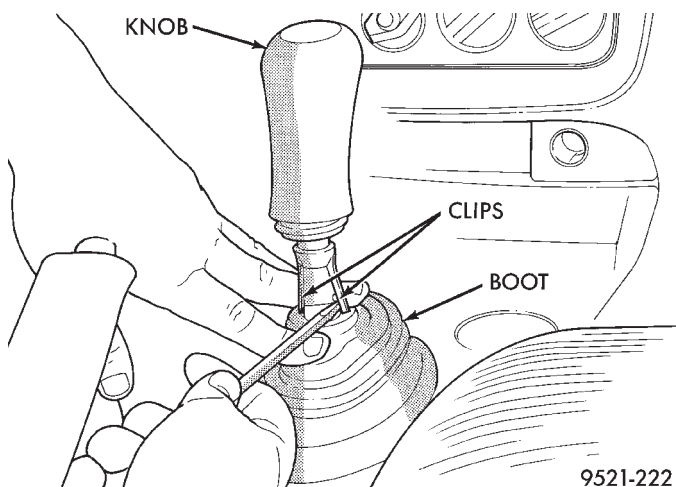

Fig. 121 Gearshift Knob
(3) If the vehicle is equipped with a manual transmission remove the gearshift knob and shifter boot using the following procedure.
- Push shifter boot down to expose clips on gearshift knob and roll pin on shifter handle (Fig. 121).
- Pry the clips on the shifter knob away from the roll pin in the shifter handle using a flat blade pry tool (Fig. 121).